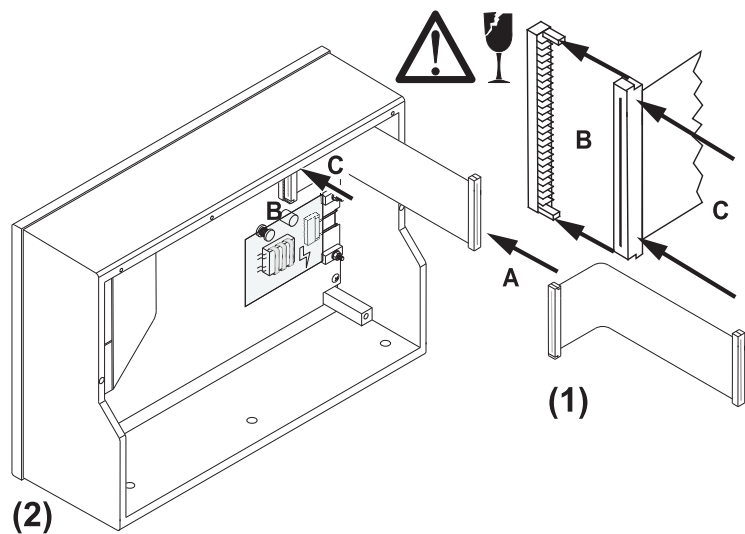

Fig. E 7-9: Attaching the connecting flat cable
- Replace the last detached plug of the connecting flat cable (A) exactly between the two guiding pins of the connector on the display pcb (B). Fasten it with slight pressure (C). Avoid damage of the connector, the locker and the connecting flat cable because of canting. Then prepare it like shown in Fig. E 7-9.